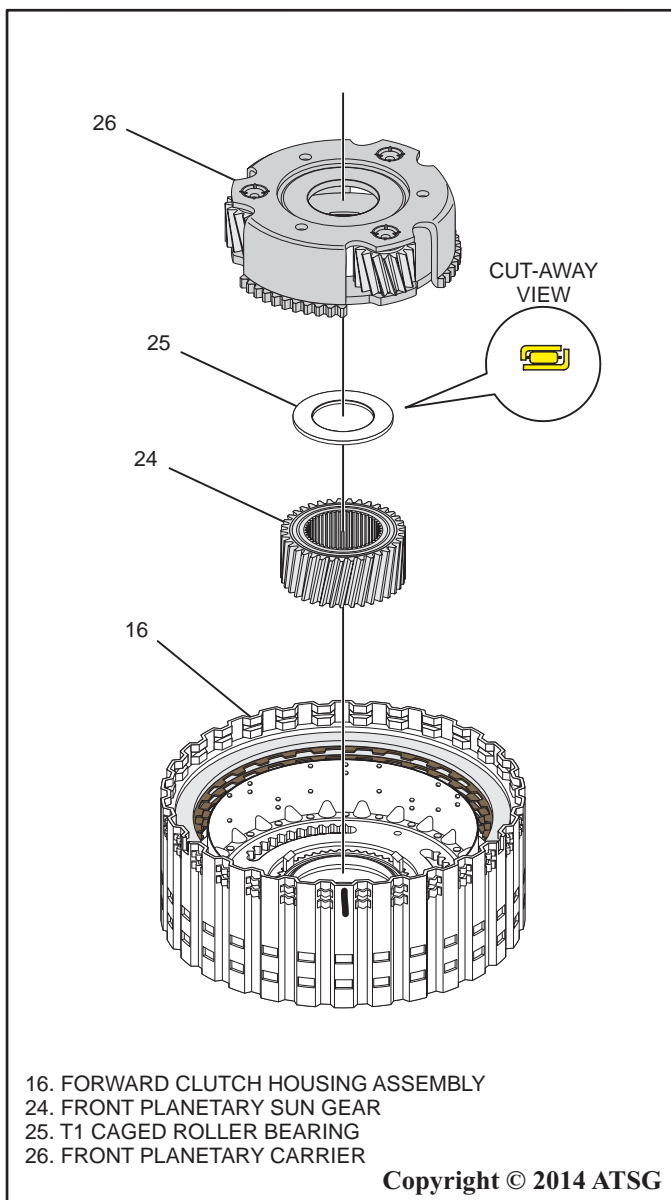

Figure 82
27. Remove the front planetary carrier, the T1 caged roller bearing and the front planetary sun gear as shown in Figure 82.